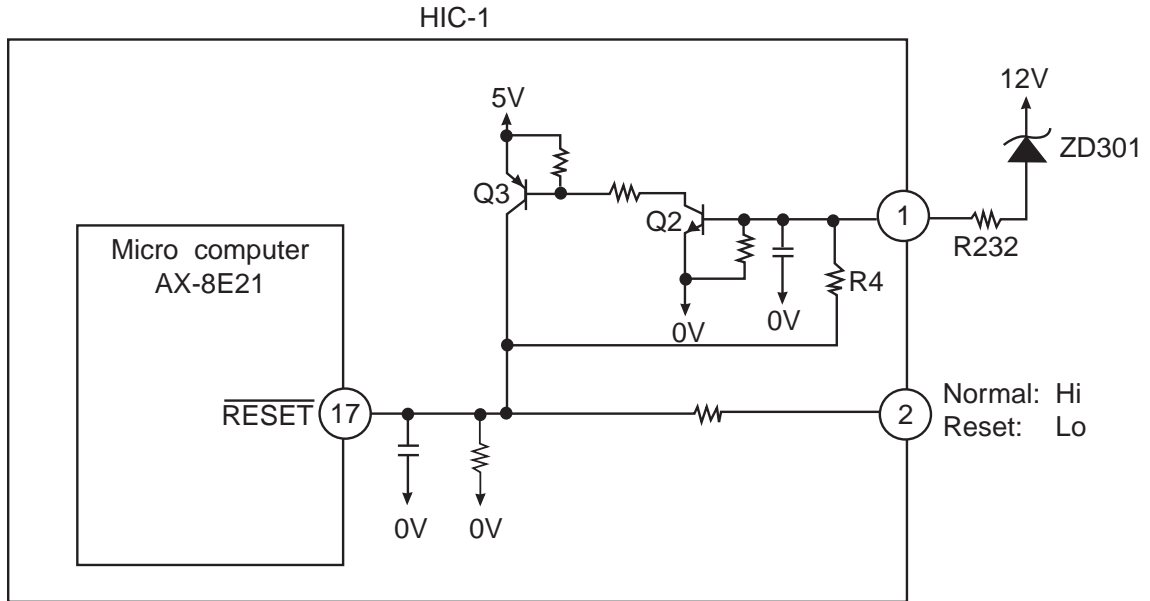

Fig. 11-1
- Fig. 11-1 shows the reset circuit and Fig. 11-2 shows waveform at each point when power is turned on and off.
- When power is turned on, 12V line and 5V line voltages rise and 12V line voltage reaches 7.2V (Zener voltage of ZD501), ZD301 is turned ON, Q2 and Q3 are turned ON and reset voltage input to pin ⑰ of microcomputer is set to Hi. By ZD501, reset voltage maintains input of pin ⑰ at Lo until V_{DD} of microcomputer rises to 5V to obtain operable status.